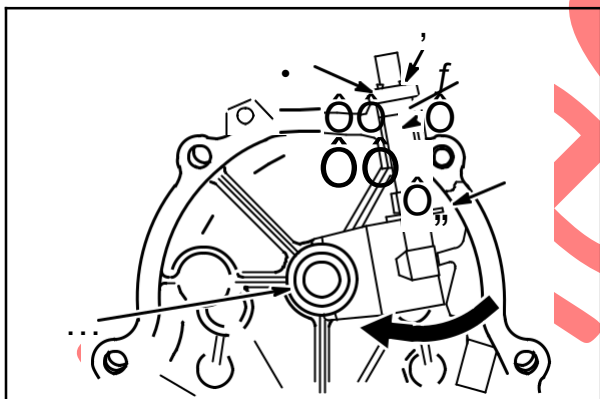

Fig. 10
Assemble lower bushing to governor shaft with thrust flange (4) down, **Fig. 10**.